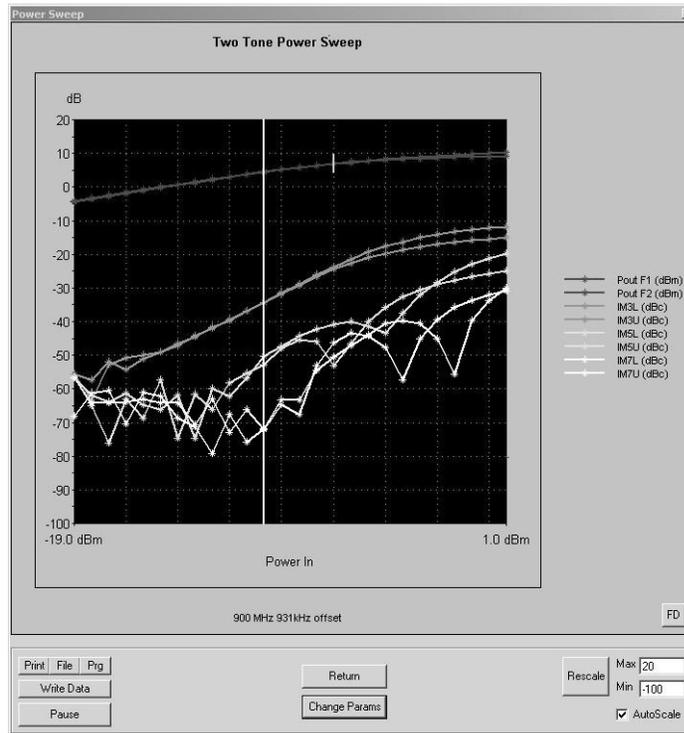

Figure 5-3. Single Frequency Power Sweep Test
- **Select Start Test:** Observe that the test screen (Figure 5-3) appears.